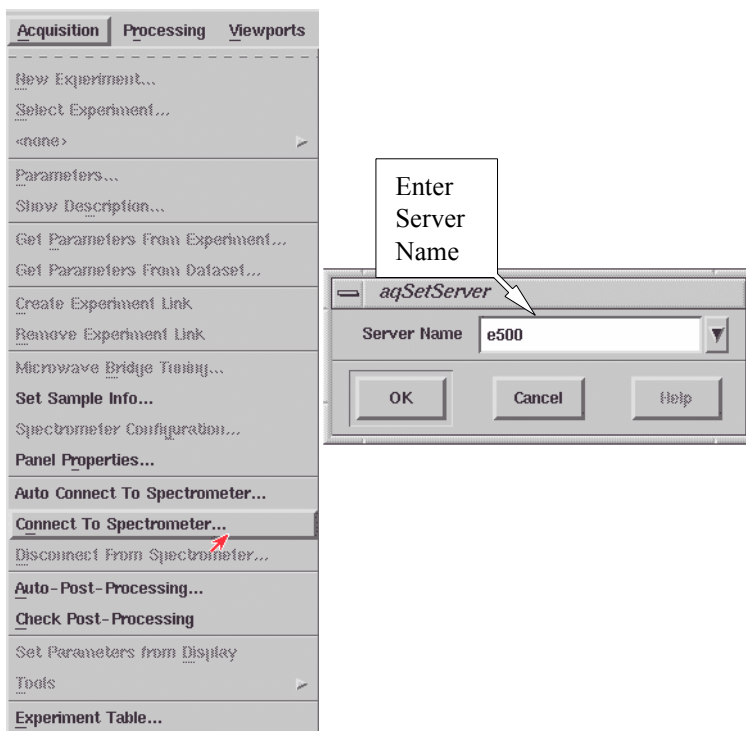

Figure 15-4 Connecting to the spectrometer.
3. **Connect to spectrometer.** Click Acquisition in the menu bar and then Connect To Spectrometer. A dialog box will appear prompting for the Server Name. Enter the acquisition server's name in the blank box and click OK. (See Figure 15-4.) If you do not know the acquisition server's name, ask the system administrator. The typical servers names are e500, e580, e600, or e680, depending on the type of spectrometer.